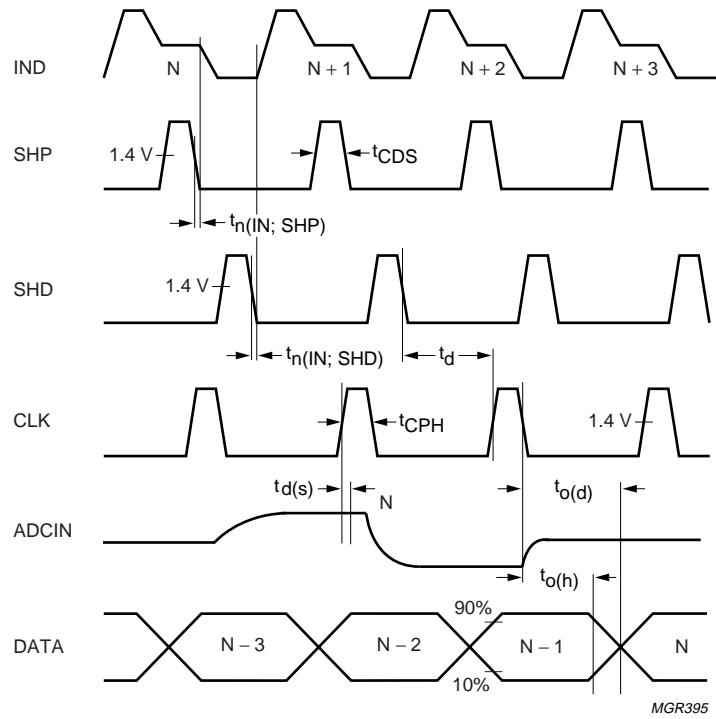

Fig.5 Pixel frequency timing diagram.
3. Depending on operating pixel frequency, the output voltage and capacitance must be determined according to the output delay timings (to(d)), see Fig.5.